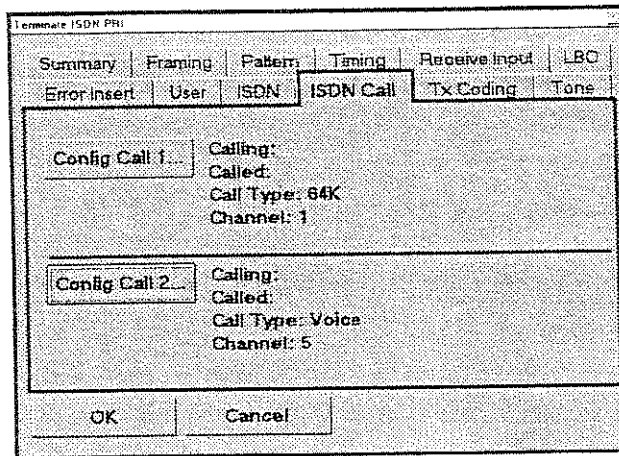

Figure 4-9. ISDN PRI Call Settings
The ISDN PRI Call Settings Menu (ISDN Call) is visible only when the Terminate ISDN PRI mode application is active. Parameters must be set for both **Call 1** and **Call 2** when connecting to two calls simultaneously. Press **Config Call 1** (or Config Call 2) for a pop-up dialog box to change the parameters (Figure 4-9).
4. Select the **ISDN Call Property Sheet** tab. Configure the call(s) by pressing **Config Call 1** and/or **Config Call 2** (see Figure 4-9). Refer to Table 4-4 for definitions of call configurations.